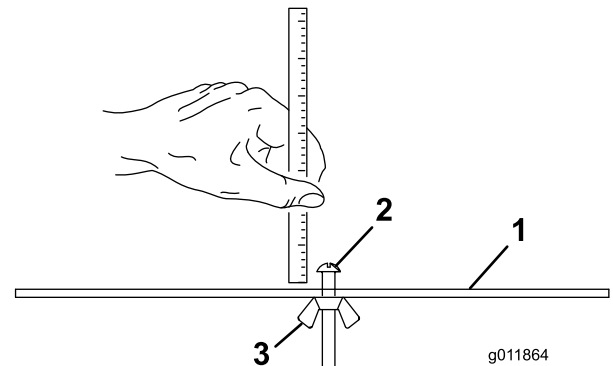

Figure 18
2. Loosen nut on gauge bar (Figure 18) and set adjusting screw to desired height-of-cut. Distance between bottom of screw head and face of bar is height-of-cut.